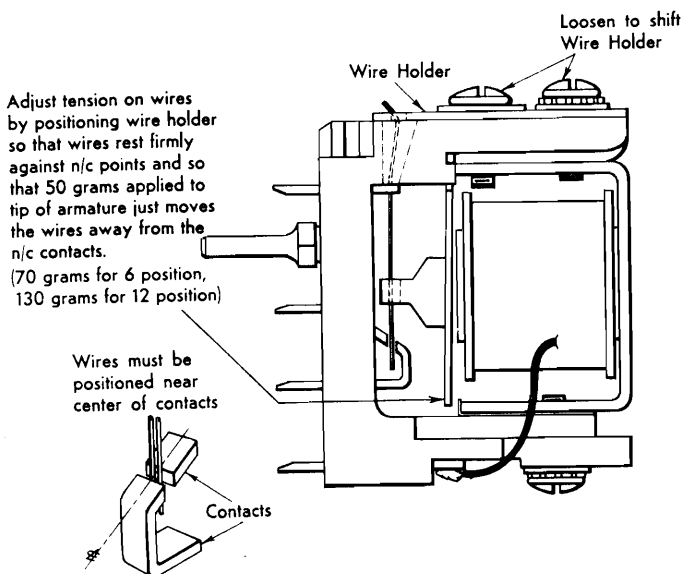

Figure 18
3. Figure 18. The contact wires should be inspected to insure that they are positioned near the center of the contacts (Insert, Figure 18). Armature end shake must not permit the wires to reach the edge of the contacts, but the armature pivot must be free.
4. Figure 18. Adjust tension on the contact wires by shifting the wire holder so that a 50-gram pressure applied at the center of the free end of the armature just moves the wires away from the contacts on the normally closed side. The 6- and 12-position relays require a 70 and a 130-gram pressure, respectively.
3. Adjust the tension of contact wires, 1 and 4, by shifting the wire-holder so that a 20-25 gram pressure applied at the center of the free end of the armature, just moves the wires away from the N/C contacts. The standard adjustment, as shown in Figure 18, specifies 50 grams tension and is applied when all the contact wires are installed.